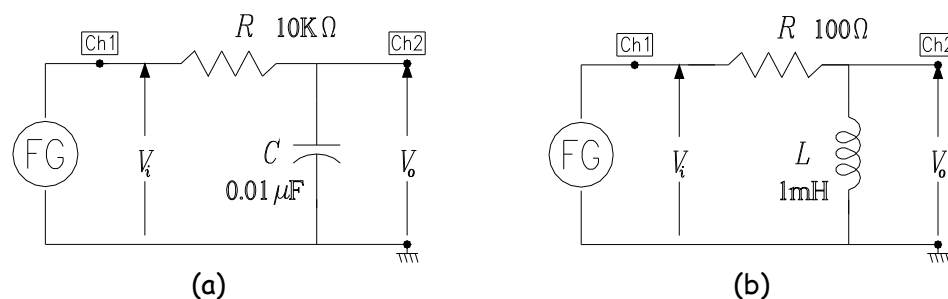

Fig.5
1. Connect up the circuit in Fig.5(a) (this is also called an *RC lowpass filter*).